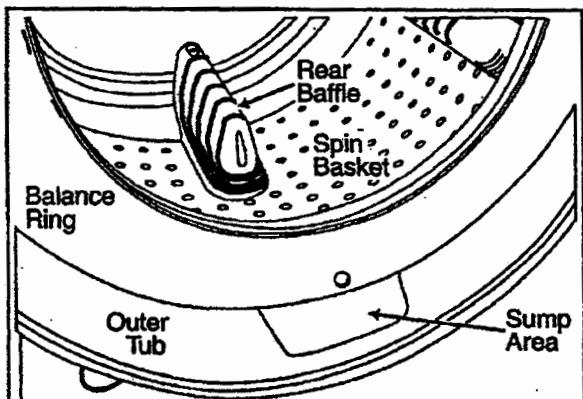

**Figure 2-38**
3. Using a flat-bladed screwdriver, slide under the clip and pry to remove. Remove the remaining clips from the outer tub cover (*Figure 2-38*).